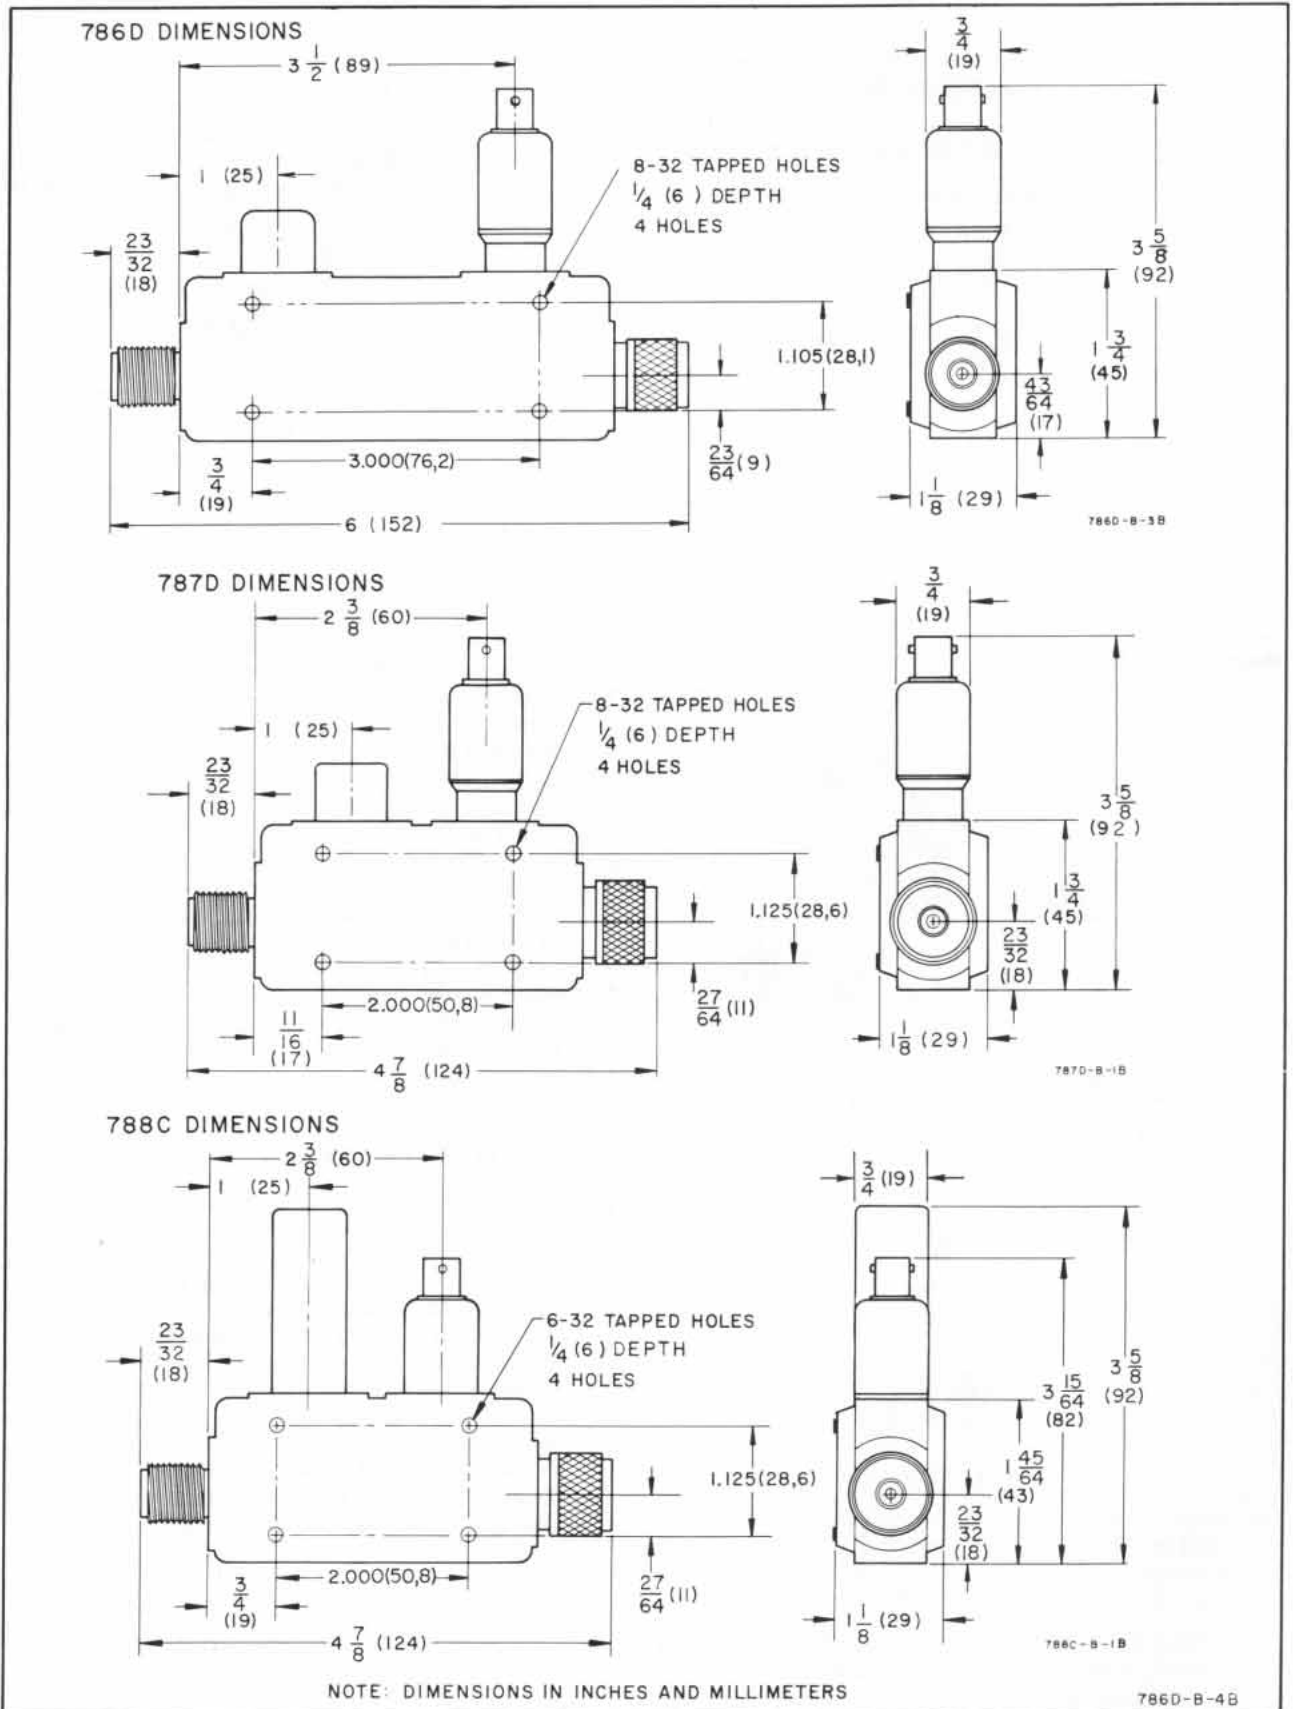

Figure 2. Outside Dimensions
Size: Refer to Figure 2
10. The directional detector is useful as the sampling and detection device in closed-loop leveling setups as described in Paragraph 16. It can also be used as a calibrated power monitor by determining the correlation between detected output and main-line RF output levels, or for relative RF envelope observation with an oscilloscope. If the directional detector is to be permanently mounted for any application, refer to Figure 2, which illustrates the location of the four mounting holes and the general side dimensions. Before installing in any setup, the following should be considered: